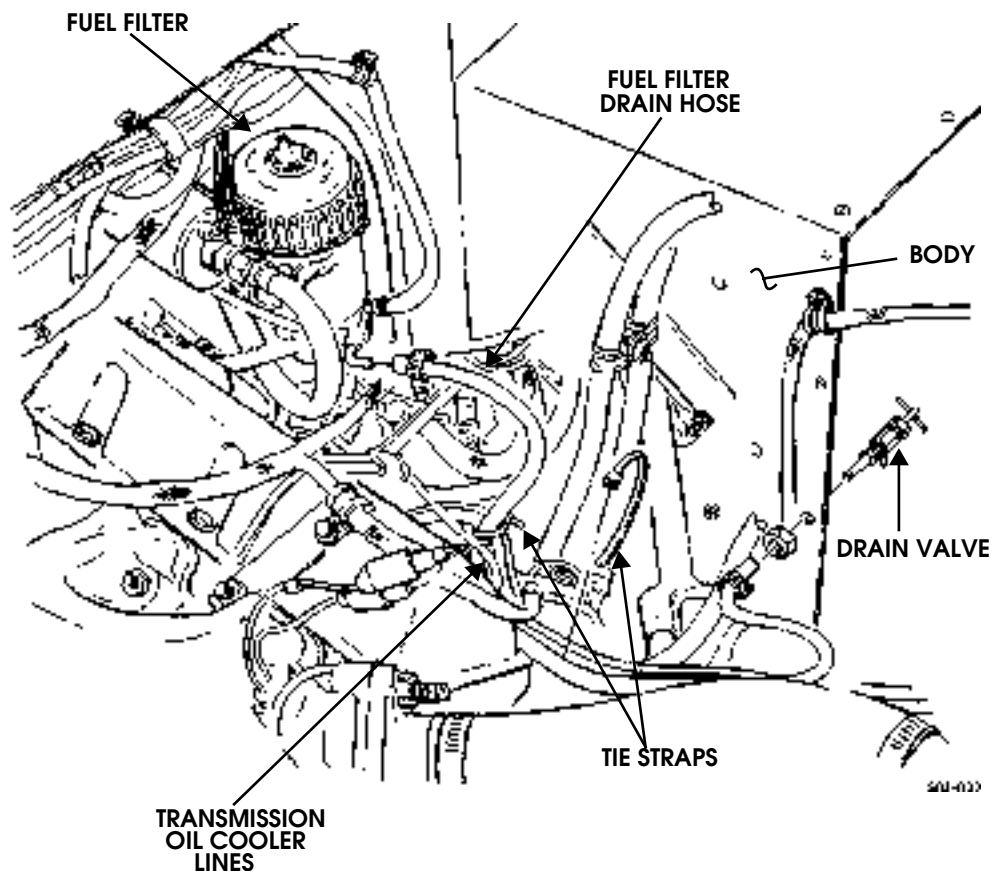

Figure 3-42: Fuel Filter Drain Hose And Valve Location
1. Disconnect fuel filter drain hose from fuel filter (Figure 3-42).